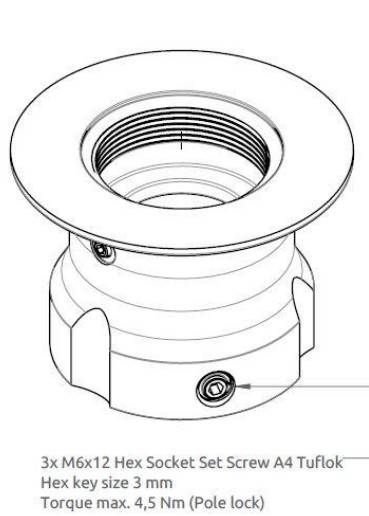
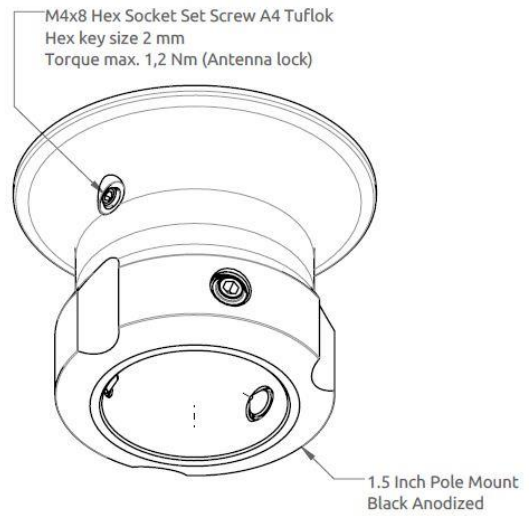

Figure 26: Pole Mount (1.5" tube), Antenna Unit.
Figure 27: Pole Mount (1.5" tube), Antenna Unit.
The Pole Mount (1.5" tube), Antenna Unit is illustrated in Figure 25 to Figure 27.
4. Screw the pole mount (clockwise) on the LT-3130 Antenna Unit, and fasten the antenna lock pinot screw, as illustrated in Figure 27 (max torque = 1.2 Nm)
5. The LT-3130 Antenna Unit and pole mount can now be mounted on the 1.5" tube. Fasten the three pole lock pinot screws, as illustrated in Figure 26 (max torque = 4.5 Nm)
The Pole Mount (1.5" tube), Antenna Unit only support a 1.5" tube. The pinot screws (antenna and pole lock) torques are specified in Figure 26 and Figure 27. The pole mount is made of milled aluminum (anodized). The pinot screws are made of A4 stainless steel.